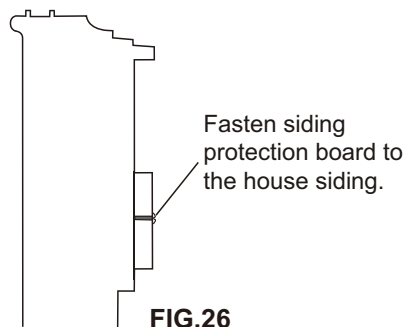

FIG.26
**29 Securely attach a siding-protection board** to the side of the house where the platform assembly hit the house as shown (FIG.26). The siding-protection board should be long enough to span 2 wall studs.